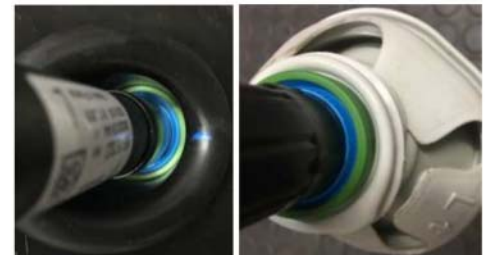

Figure 1. Left - passenger compartment side, right - engine compartment side
- The intermediate steering shaft has two blue sealing rings, which must be lubricated separately because the lubricant cannot flow effectively from one sealing ring to the other ⇒ *Figure 1. Left - passenger compartment side, right - engine compartment side.*